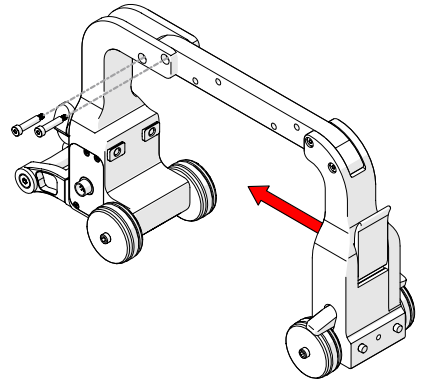

Fig. 25 - Align screw holes
2. With the two shoulder screws removed, position the two halves of the corrosion link closer together, align the screw holes and insert the shoulder screws (Fig. 25).